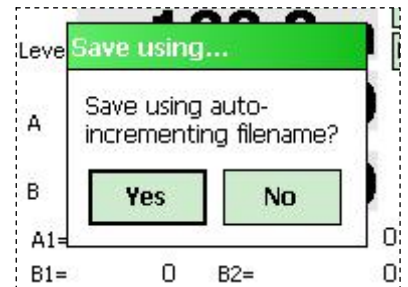

Figure 9 - Auto-increment save
- If **Yes** is selected, you then will be given the choice of saving with the auto-increment suffix on the standard filename (see figure 9). Selecting Yes again causes the save operation to be carried out using a filename of the form: *[Hole_ID][3 digit AutoIncr_Suffix].GKN*